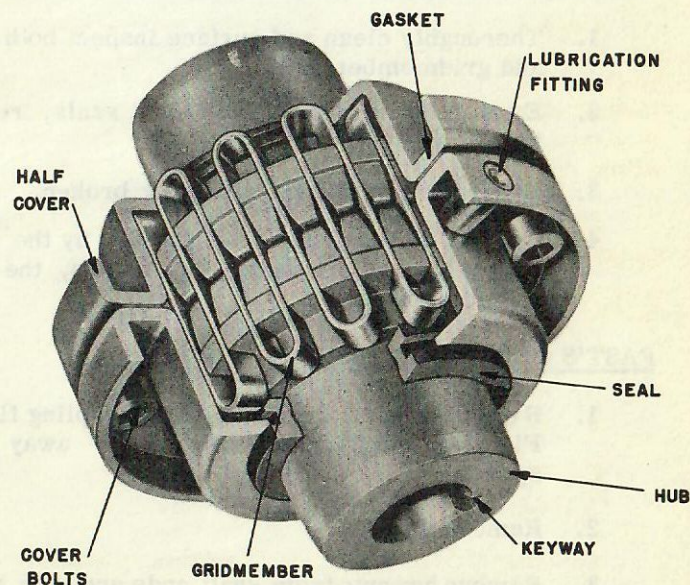

FIG. 2-7
1. Remove bolts from coupling cover and slide back, Fig. 2-7.